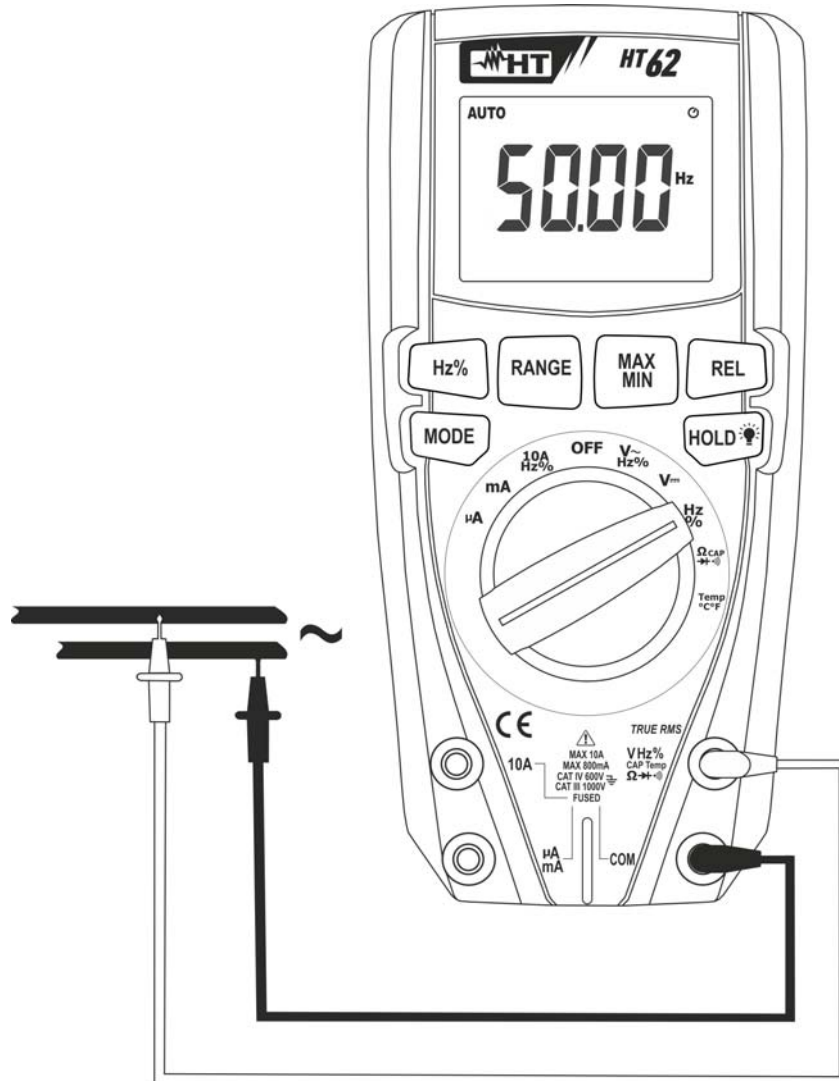

Fig. 4: Use of the instrument for frequency measurement and duty cycle test.
4. Position the red lead and the black lead respectively in the spots of the circuit to be measured (see Fig. 4). The value of frequency (Hz) or of duty cycle (%) is shown on the display. The bargraph is not active in these functions.